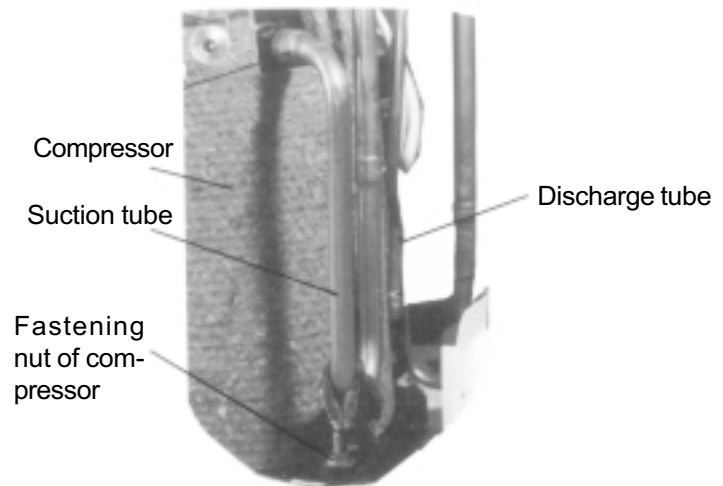

Figure 39
- ④ Disassemble the compressor
- Unsolder the discharge tube and suction tube to separate them as shown in figure 39.